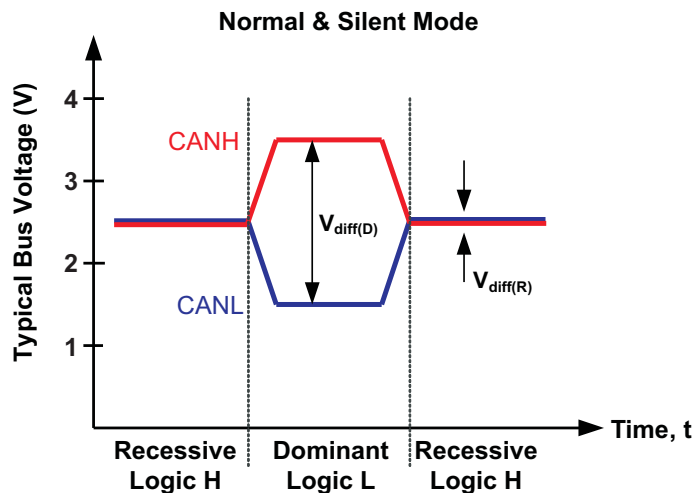
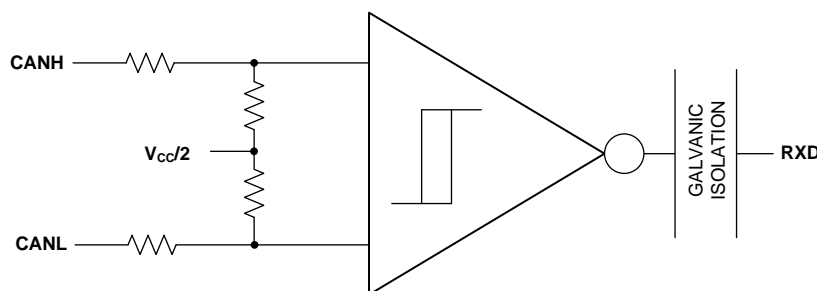

图 23. Bus States (Physical Bit Representation)
图 24. Simplified Recessive Common Mode Bias and Receiver
The CAN bus has two states during operation: *dominant* and *recessive*. A dominant bus state, equivalent to logic low, is when the bus is driven differentially by a driver. A recessive bus state is when the bus is biased to a common mode of  $V_{CC} / 2$  through the high-resistance internal input resistors of the receiver, equivalent to a logic high. The host microprocessor of the CAN node will use the TXD pin to drive the bus and will receive data from the bus on the RXD pin. See 图 23 and 图 24.
(1) H = high level, L = low level, Z = common mode (recessive) bias to  $V_{CC} / 2$ . See 图 23 and 图 24 for bus state and common mode bias information.